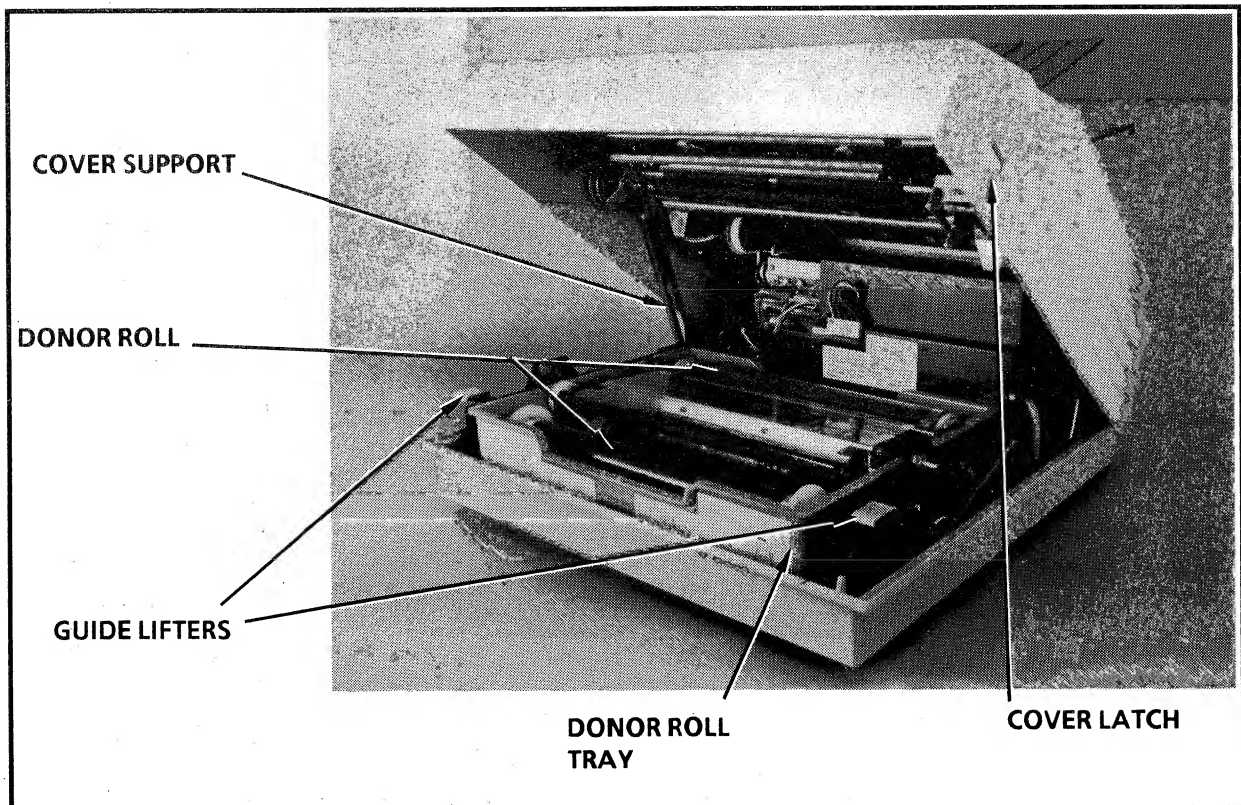

Figure 3-2. C2700 Thermal Plotter (Cover open)
2. Pull the cover latch on the right side of the plotter chassis *up* and lift the top cover to access the interior of the plotter. Ensure the cover support is locked in place (Figure 3-2).